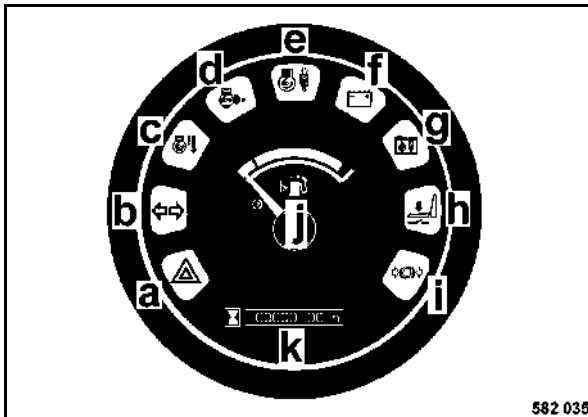

Fig. 59
- Check the fuel level on the fuel gauge “j” (Fig. 59).